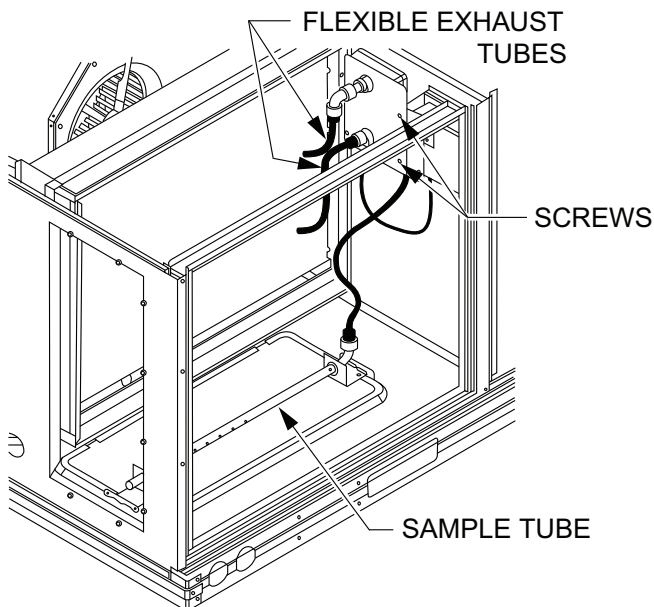

Fig. 40 — Return Air Smoke Detector Module
1. Unscrew the two screws holding the return air sensor detector plate (see Fig. 40). Save the screws.